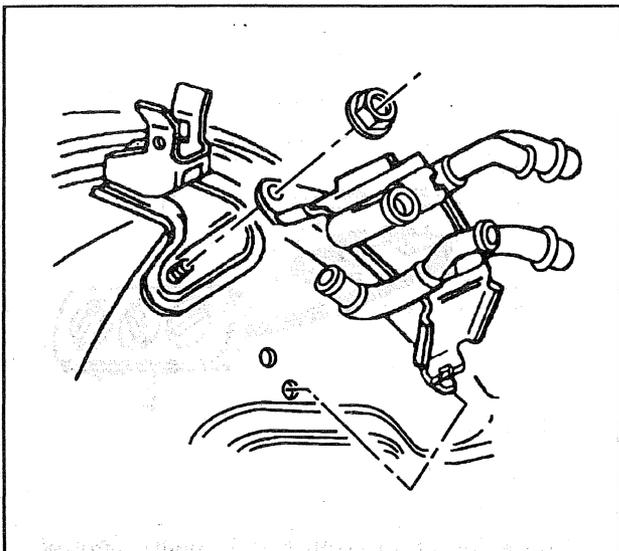

Figure 21—Auxiliary Heater Pipe
←→ Remove or Disconnect (Figures 21, 22, and 23)
14. Nut (figure 21).
↔ Install or Connect (Figures 21, 22, and 23)
1. Auxiliary heater pipe (figure 21).